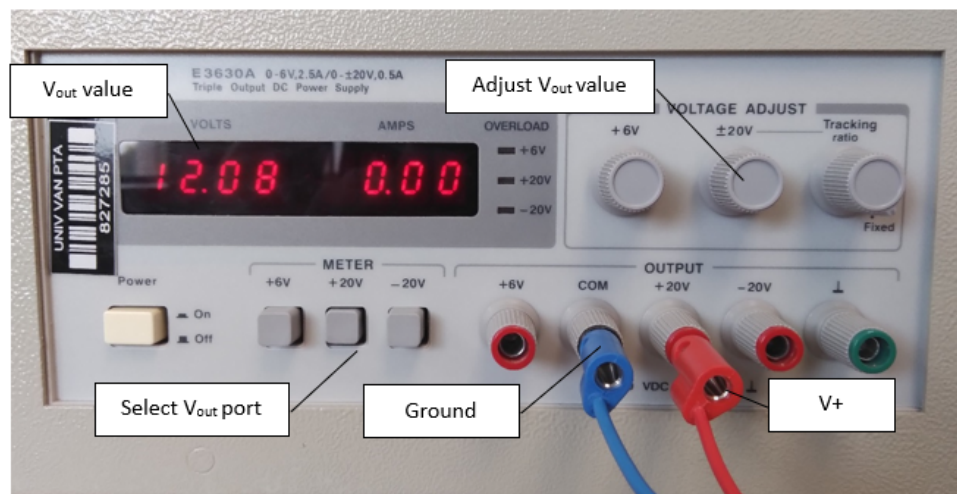

Figure 88: Connectors attached to the power supply for a 12 V source.
3. The power supply as shown in Figure 88 is set up by connecting a cable to the COM port (ground) and the +20 V port. If a voltage of less than 6 V is required then the +6 V port can be used. Similarly, the -20 V port is used to supply a negative voltage.